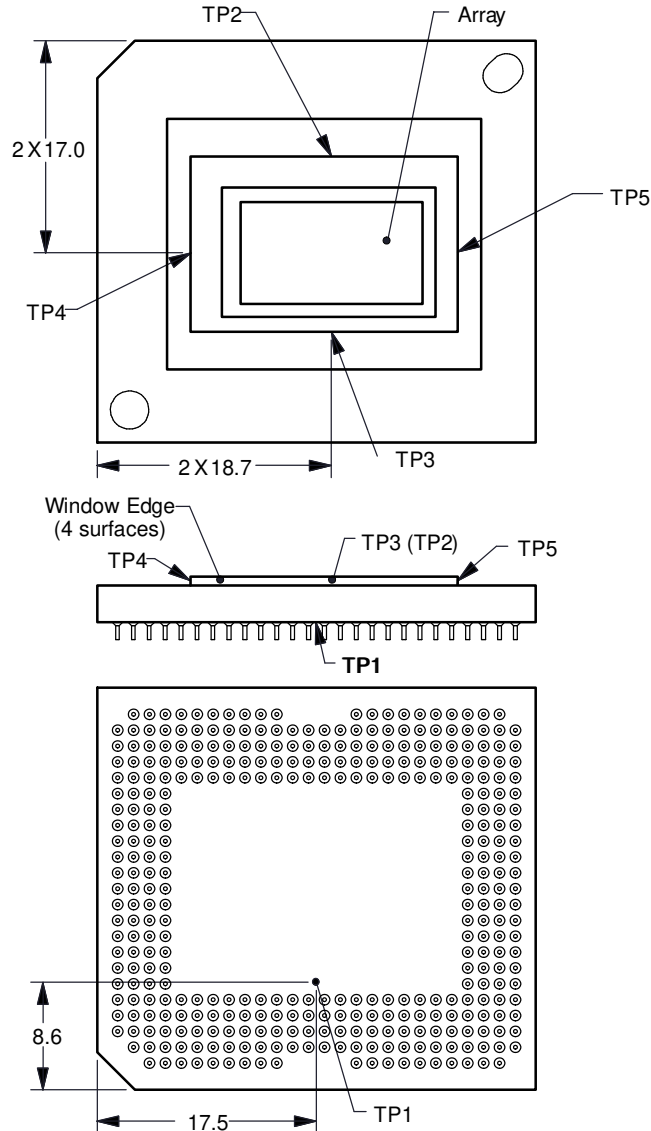

Figure 7-1. DMD Thermal Test Points
Micromirror array temperature cannot be measured directly, therefore it must be computed analytically from measurement points on the outside of the package, the package thermal resistance, the electrical power, and the illumination heat load. The relationship between array temperature and the reference ceramic temperature (thermal test TP1 in Figure 7-1) is provided by the following equations:
- T_{CERAMIC} = measured ceramic temperature ($^{\circ}\text{C}$), TP1 location in Figure 7-1
- Q_{ARRAY} = total DMD Power on array (W). (electrical + absorbed)
- $Q_{\text{ELECTRICAL}}$ = Nominal DMD electrical power dissipation (W)